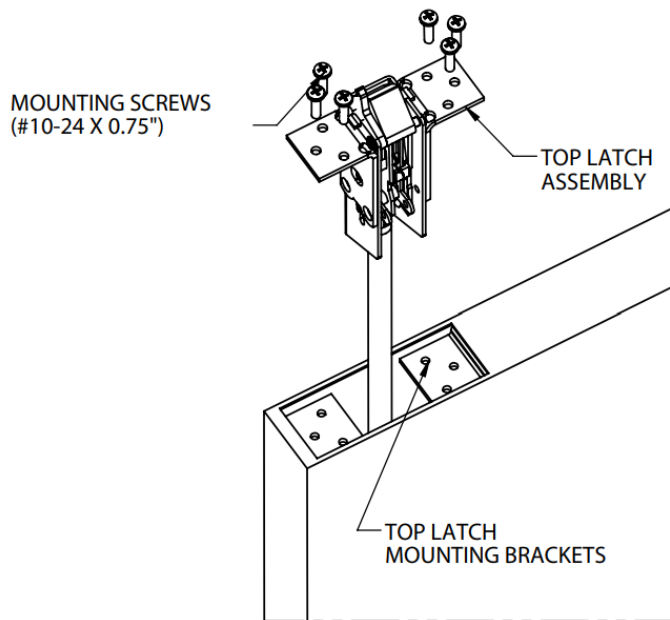

FIGURE 3-1
- A. Insert top latch assembly into door and fasten to top latch mounting bracket at top of door by supplied mounting screws (see Figure 3-1).